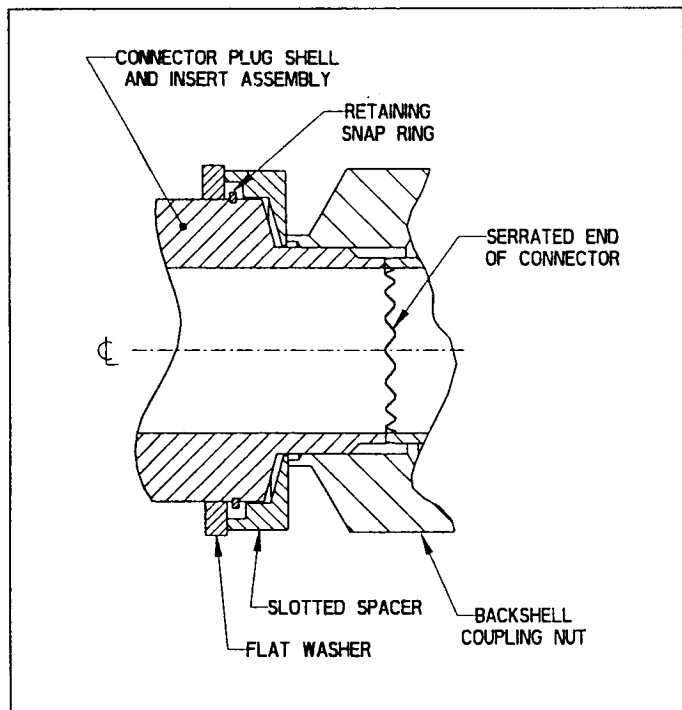
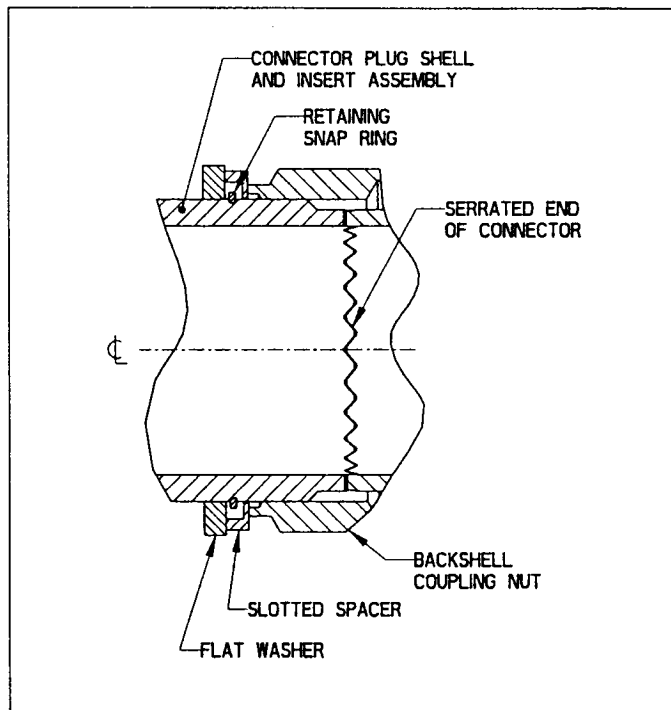

FIGURE 3
FIGURE 4
4. Center the slotted spacer over the serrations and threads and then slide the slotted spacer forward into position behind the retaining snap ring as illustrated in Figure 3 (sizes 1511 and 1513) or as illustrated in Figure 4 (size 1515).
6. Center the slotted spacer over the serrations and threads and then slide the slotted spacer forward into position behind the retaining snap ring as illustrated in Figure 3 (sizes 1511 and 1513) or as illustrated in Figure 4 (size 1515).
1. Prior to loading wired contacts into the NZGL plug shell, the slotted spacer must be placed over the rear serrations and threads and pushed forward as illustrated in Figure 3 (sizes 1511 and 1513) or as illustrated in Figure 4 (size 1515).